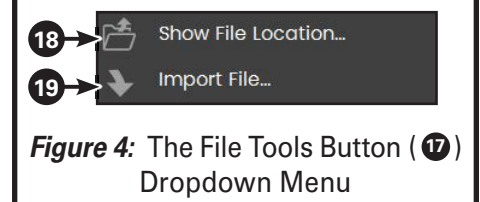

Figure 4: The File Tools Button (17) Dropdown Menu
The File Tools button calls up a dropdown menu that includes options for showing the directory where downloaded event data files are located on the host PC as well as importing event data files from other directories into the current working folder, as shown in *Figure 4*.
To display the directory where downloaded event data files displayed in the Events Listing Area (item 14) are located on the host PC, select the Show File Location option in the File Tools dropdown menu (see *Figure 4*).
To import event data files from other directories into the current working folder, select the Import File option in the File Tools dropdown menu (see *Figure 4*).